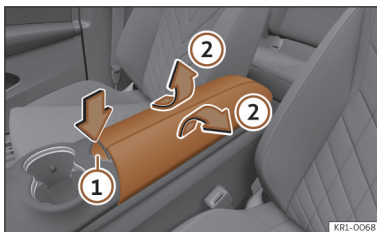

Fig. 90 Front centre armrest
Tap on button ① >>> **Fig. 90** to open the armrest. Inside, there is a storage compartment.